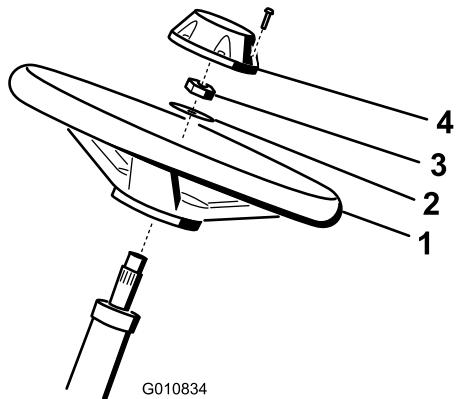

Figure 5
- Slide the steering wheel onto the steering shaft (Figure 5).
- Slide the washer onto the steering shaft (Figure 5).
- Secure the steering wheel to the shaft with a jam nut and tighten it to 27 to 35 N·m (20 to 26 ft-lb) (Figure 5).
- Install the cap to the steering wheel and secure it with a screw (Figure 5).